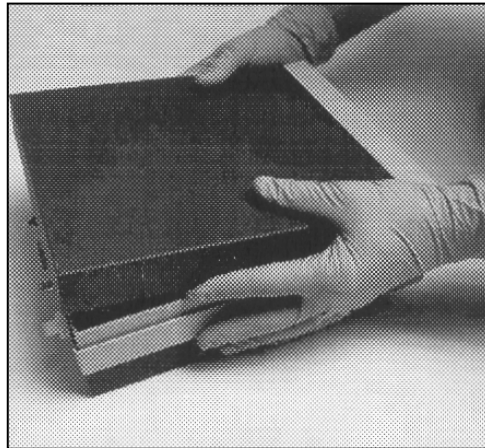

Figure 4-2. Remove Covers from the 2B Ozone Analyzer.
- Remove the top and bottom covers from the instrument. Each cover is attached by 2 screws at the back of the instrument. To remove the bottom cover, you will also need to loosen the set screw on the right side (as viewed from the front) of the instrument. Once the screws are removed, the covers are removed by lifting the back of the cover away from the instrument and sliding the cover away from the front panel (see Figure 4-2).